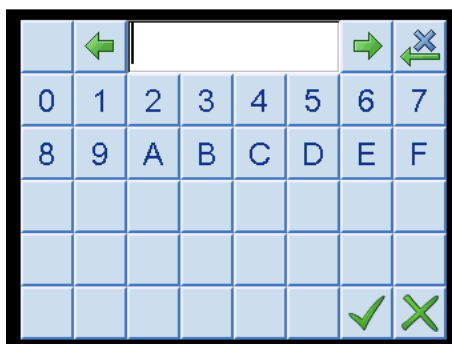

Figure 175:
1. Select the **Option Enabling Code** parameter. The display shows the alphabetic keypad, Figure 175.